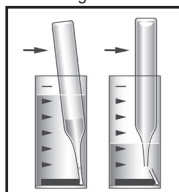

Figure 3
4. Place the CHEMet ampoule, tip first, into the sample cup. Snap the tip. The ampoule will fill leaving a bubble for mixing (fig. 3).